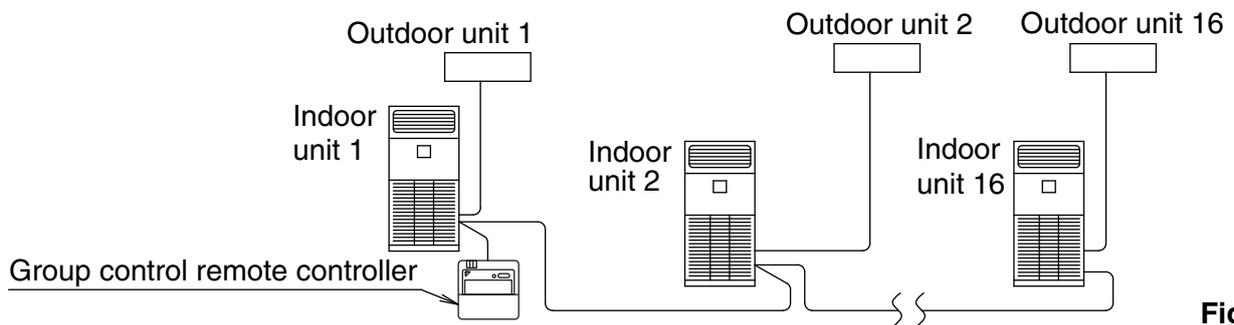

**Fig. 35**
(All indoor units operate according to the remote controller). (Refer to Fig. 35)
- (1) Remove the control box lid. (Refer to “9. HOW TO CONNECT WIRINGS AND WIRING EXAMPLE”.)
- (2) Lay crossover between the terminals (P1, P2) inside the control box for the remote controller. (There is no polarity.) **(Refer to Fig. 35 and Table 4)**